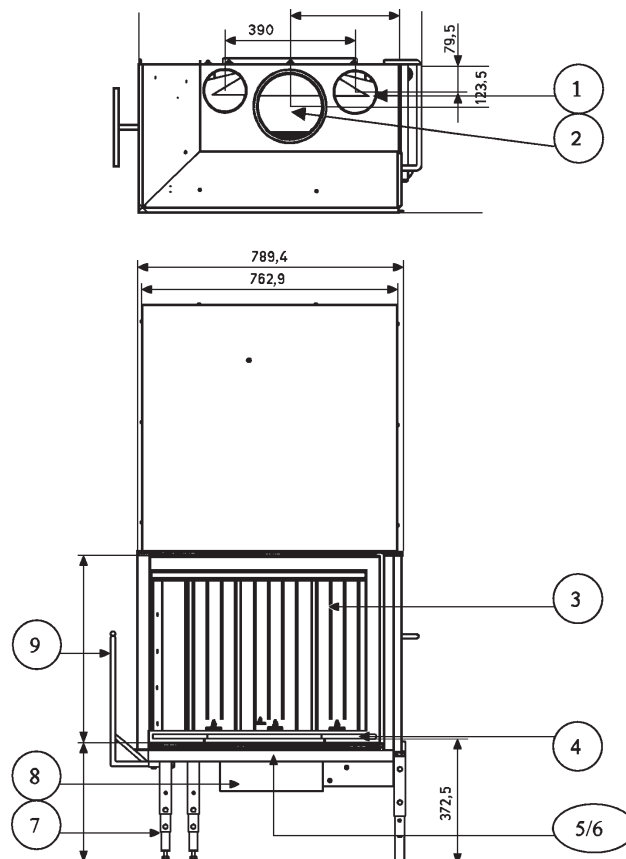

Figure 1: Commande
7.2. AMORÇAGE DU FEU (Figure 1)